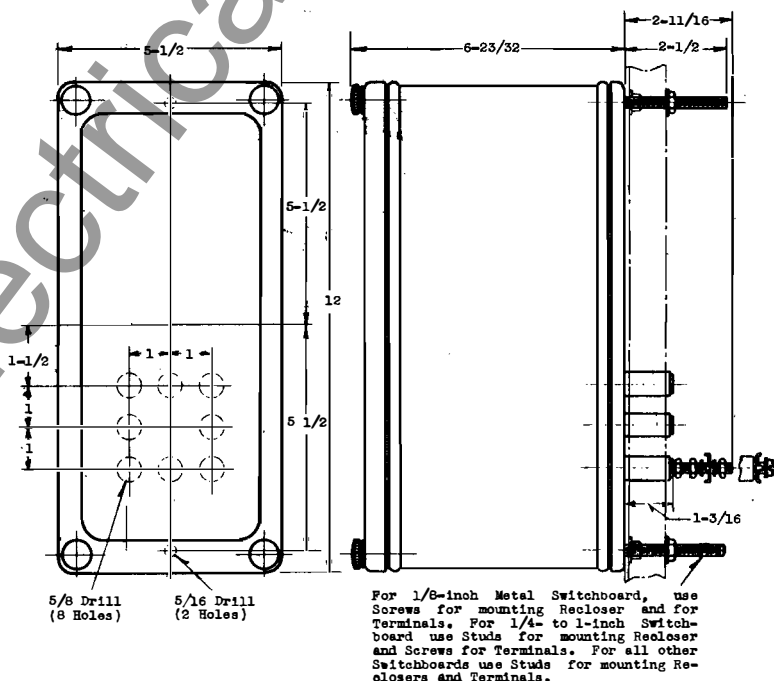

Fig. 6 - Outline Drawing for Type RC Recloser
(10) The Type RC Recloser is inclosed by a metal cover with glass window, 5-1/2" wide by 12" long and with rear-connected terminals. The Recloser is suitable for mounting on any of the usual panel materials. The outline and drilling plan for the RC Recloser is shown in Fig. 6. All electrical contacts are silver to silver and of ample carrying capacity for the service required of them.